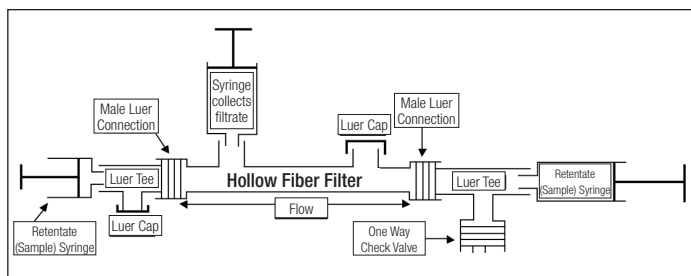

Figure 2: Schematic of MicroKros Hollow Fiber Filter
2. Transfer the diluted beads to one of the retentate syringes connected to the hollow fiber filter module and concentrate the beads to ~0.75ml (including the 0.5ml hold-up volume) by pushing the retentate syringes back and forth (Figure 2).